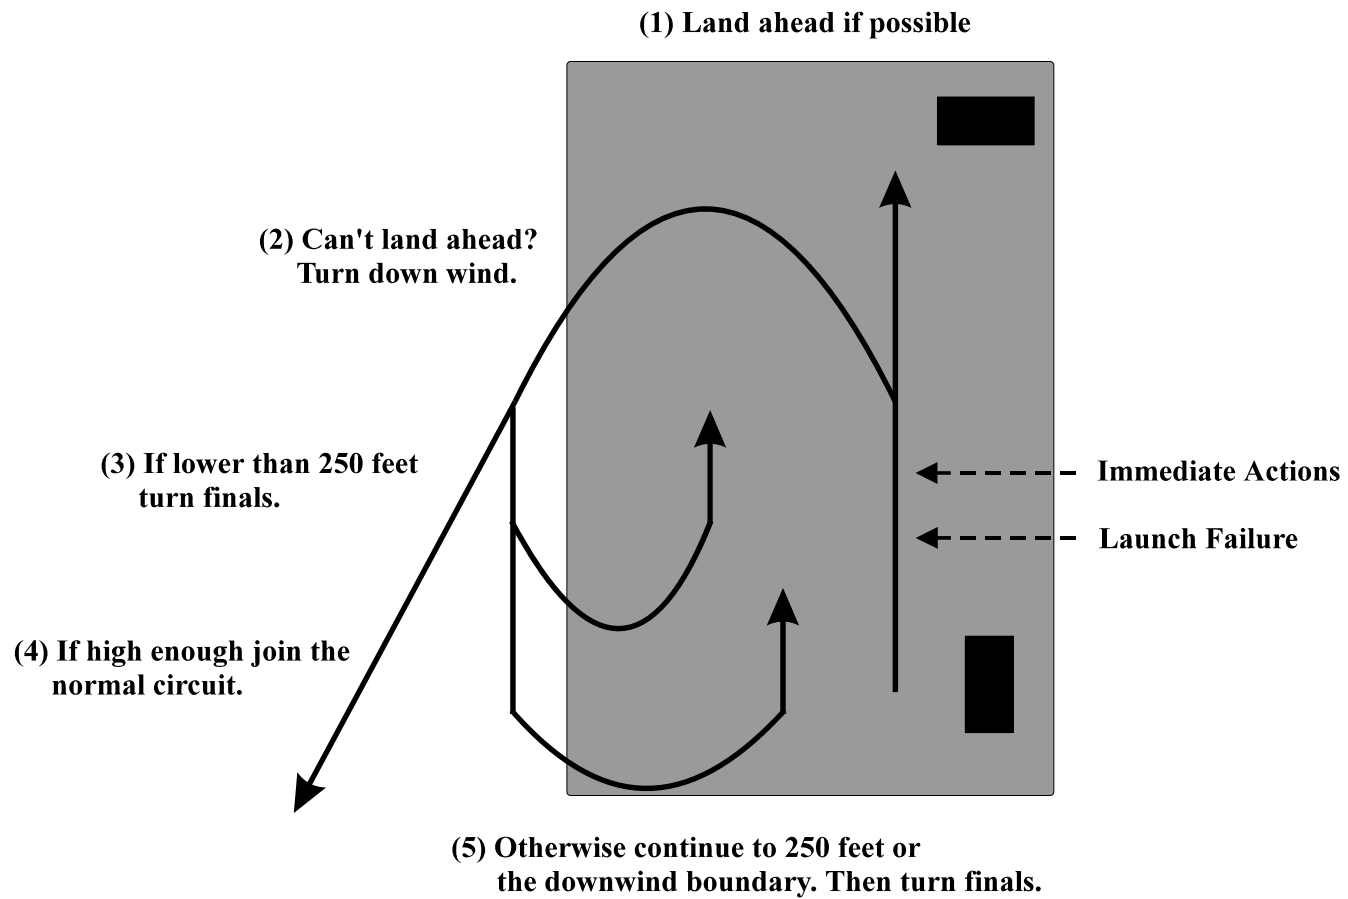

Fig 18. Circuit and landing options after launch failure.
8. **Summary.** The various options for most launch failures except the very low case are summarised in the diagram fig 18